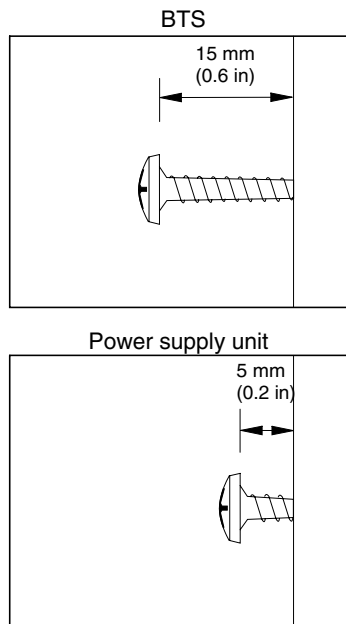

Figure 11. Space between the screw heads and the wall
4. Tighten the screws sufficiently so that the BTS and the power supply unit can hang on them until the screws are tightened later. Leave a 15 mm (0.6 in) space between the BTS screw heads and the wall, and a 5 mm (0.2 in) space between the power supply unit screw heads and the wall. See Figure 11.